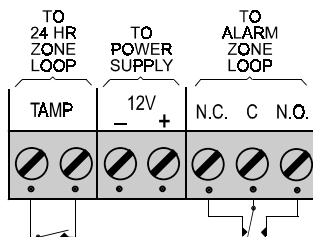

Figure 2. WR-300 Wiring
- Connect the wires to the terminal block. Refer to figures 2, 4 or 6, depending on the model used. The type 1C output relays have changeover contacts rated at 1A / 48 Volts DC or AC. The BUZ terminal is suitable for connecting a 12VDC / 25 mA buzzer.